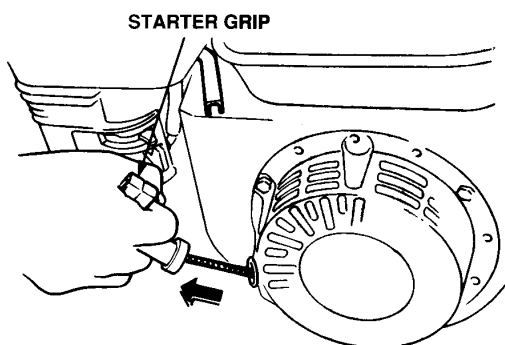

Figure 24. Starter Grip
6. Grasp the starter grip (Figure 24) and slowly pull it out. The resistance becomes the hardest at a certain position, corresponding to the compression point. Pull the starter grip briskly and smoothly for starting.